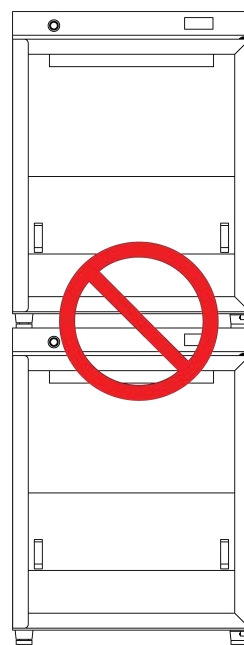

Fig 2.
- Under no circumstances should any refrigerators be stacked on top of each other (Fig 2).